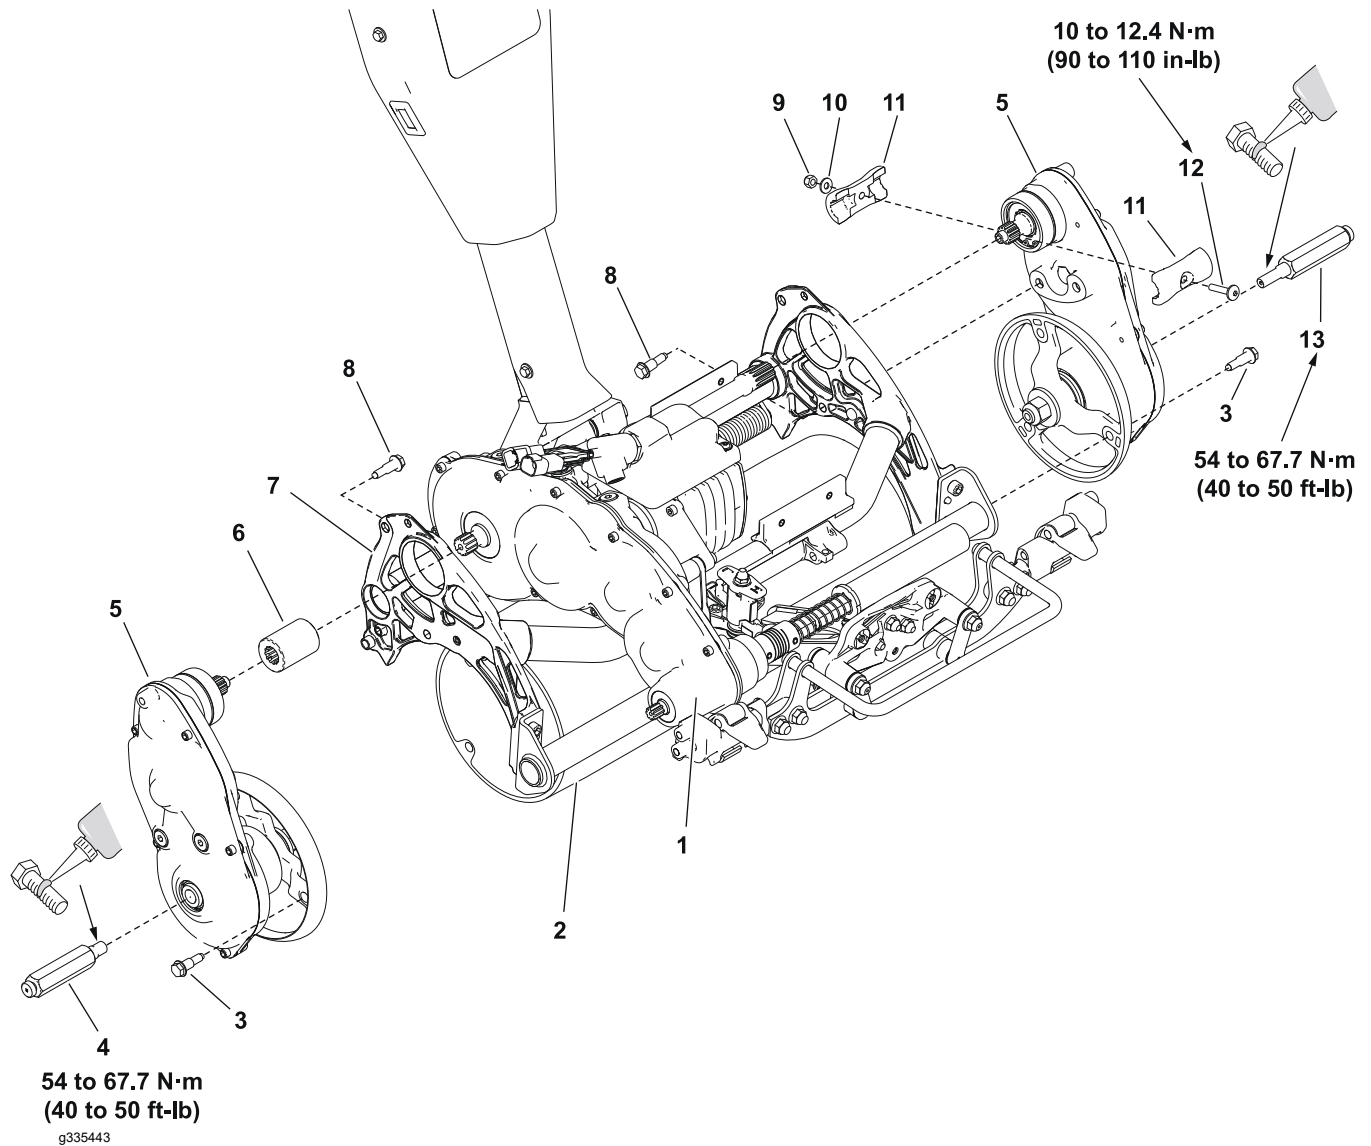

Figure 17
Note: Refer to Figure 17 during this procedure.
1. If removed, apply a coat of loctite (blue) to threads of the hexagonal shaft (4 and 13). Install the hexagonal shaft (item 4 and 13 in Figure 17) to the LH and RH drum drive gear box assemblies (5). Torque tighten the hexagonal shaft to **54 to 67.7 N·m (40 to 50 ft-lb)**.
2. Apply a light coat of grease and install the O-ring (29) to the drum drive housing (25).
3. If removed, slide the drive tube (item 6 in Figure 17) onto the transmission gear box assembly (1).
4. Install the LH and RH drum drive gear box assemblies (Item 5 in Figure 17) to the frame assembly (7) and secure with the shoulder bolts (8).
5. Install the LH and RH drum drive gear box assemblies (5) to the traction drum (2) and secure with the 3 shoulder bolts (3).
6. Install the 2 splined couplers onto the transmission gear box assembly (1) and LH drum drive gear box assembly (5) and secure with the truss screw (12), washer (10) and nut (9).
7. Torque tighten the truss screw (12) to **10 to 12.4 N·m (90 to 110 in-lb)**.